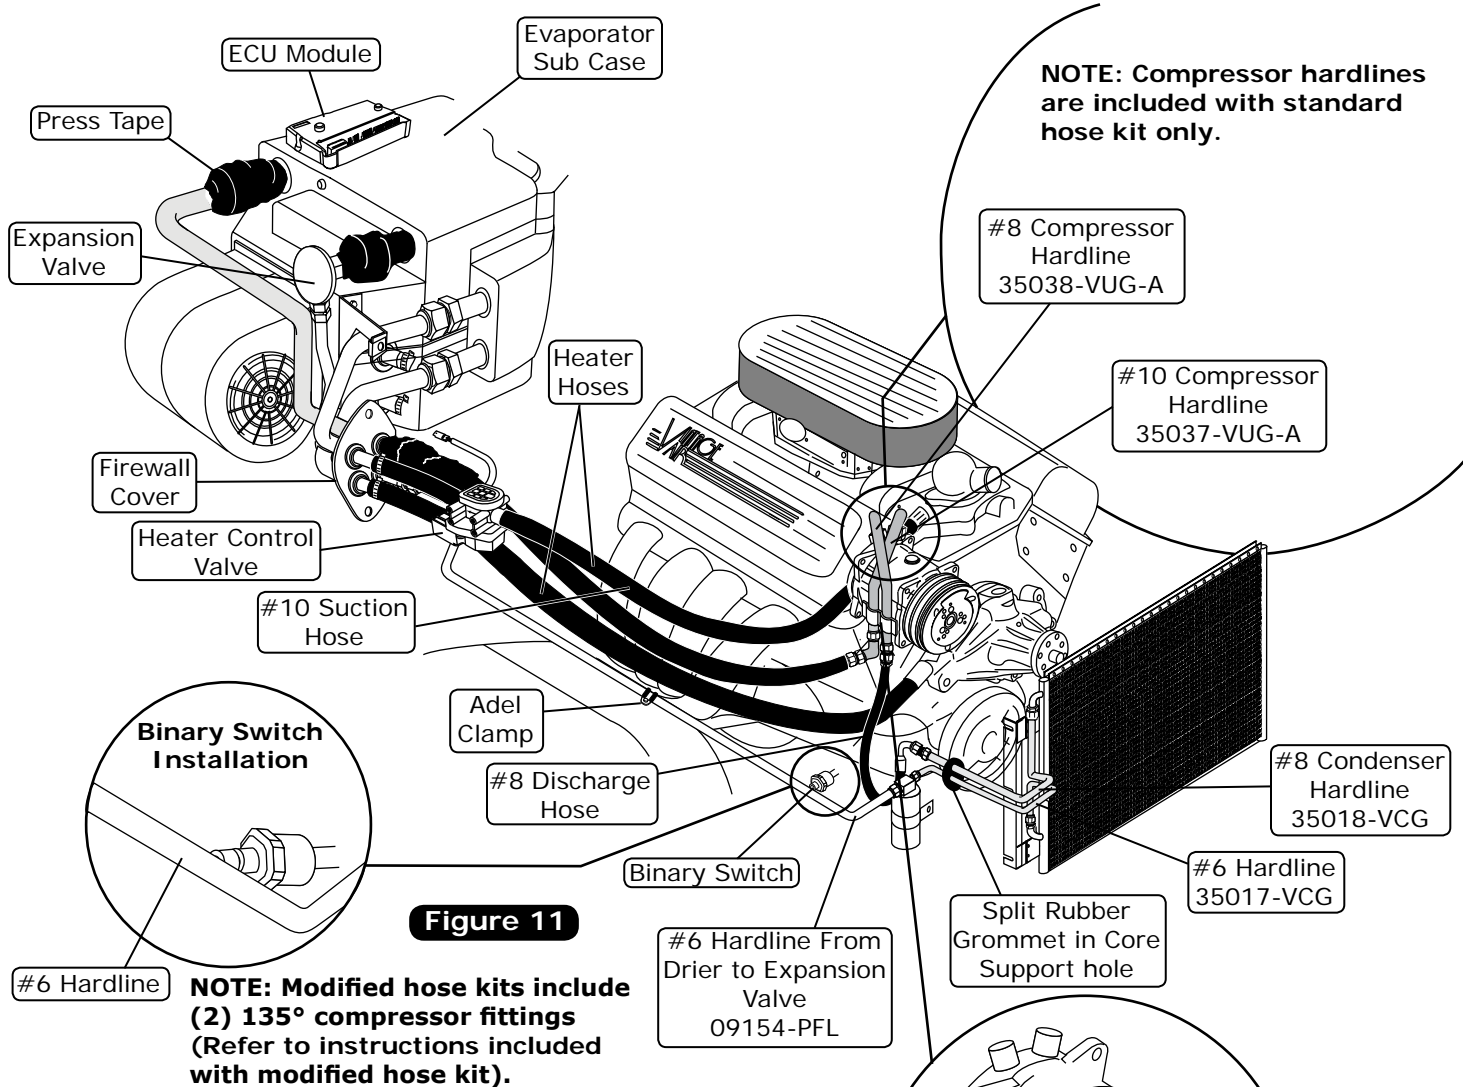

Figure 11
1. Locate the (2) compressor hardlines (See Figure 11, Page 15).
2. Locate the #8 compressor hardline. Lubricate (1) #8 O-ring (See Figure 9, Page 13), and connect the #8 compressor hardline to the #8 discharge port on the compressor. Tighten the connection (See Figure 9, Page 13, and Figure 11, Page 15).
3. Locate the #10 compressor hardline. Lubricate (1) #10 O-ring (See Figure 9, Page 13), and connect the #10 compressor hardline to the #10 suction port on the compressor. Tighten the connection (See Figure 9, Page 13, and Figure 11, Page 15).
5. Locate the #8 A/C hose. The hose will connect the #8 compressor hardline and the #8 hardline from the condenser. Lubricate (2) #8 O-rings (See Figure 9, Page 13) and install (1) onto each end of the #8 A/C hose. Route the #8 A/C hose as shown in Figure 11, Page 15, and tighten (See Figure 9, Page 13). **NOTE: The 90° hose fitting connects to the #8 condenser hardline.**
8. Locate the #10 A/C hose. The hose will connect the #10 compressor hardline and the #10 hardline from the evaporator. Lubricate (2) #10 O-rings (See Figure 9, Page 13) and install (1) onto each end of the #10 A/C hose. Route the #10 A/C hose as shown in Figure 11, Page 15 and tighten (See Figure 9, Page 13). **NOTE: The 90° hose fitting connects to the #10 compressor hardline.**
9. Install the heater hoses onto the heater lines, and route as shown in Figures 11 and 11b, Page 15. Secure with hose clamps. **NOTE: This kit does not contain heater hose. The 5/8" heater hose may be purchased from Vintage Air or a local parts retailer.**
1. Install the #6 liquid line onto the drier with a lubricated #6 O-ring (See Figure 9, Page 13) and tighten (See Figure 9, Page 13, and Figure 11, Page 15).
2. Install the binary switch onto the #6 liquid line (See Figure 11, Page 15).
3. Secure the #6 liquid line to the fender using the supplied adel clamp (See Figure 11, Page 15).